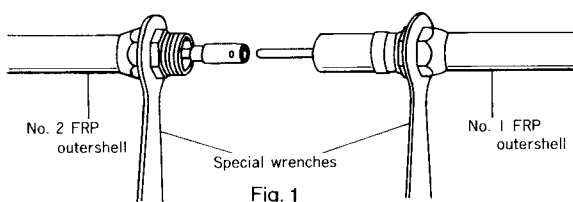

Fig. 1
- 1) Insert special wrenches included into No. 1 and No. 2 outershells as shown in Fig. 1. Use the smallest diameter section of the wrenches, of the ones which have holes in the both ends.